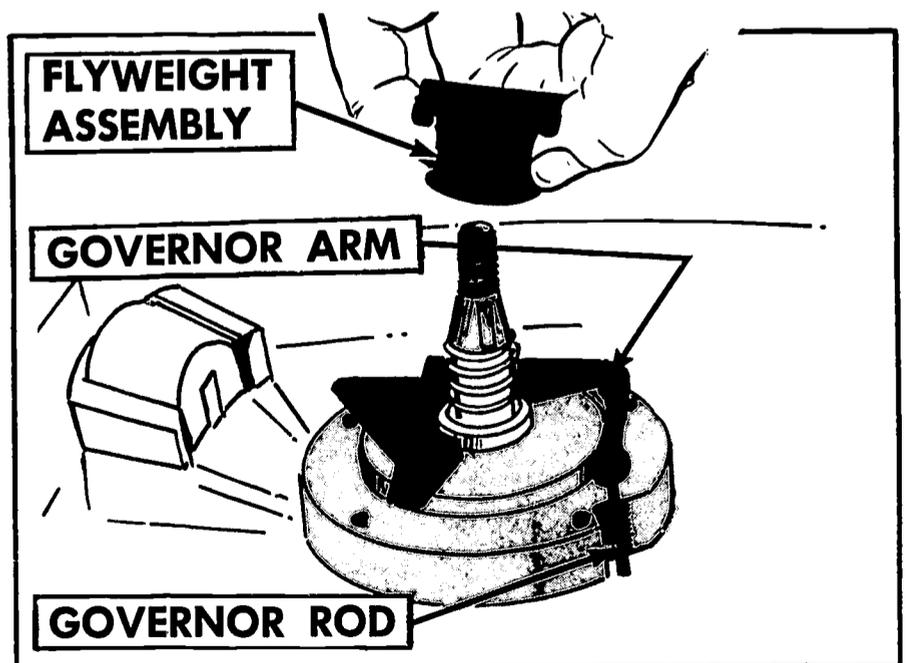

FIGURE 169. Removing governor flyweight assembly.
3. Remove the flyweight assembly (Figure 169).